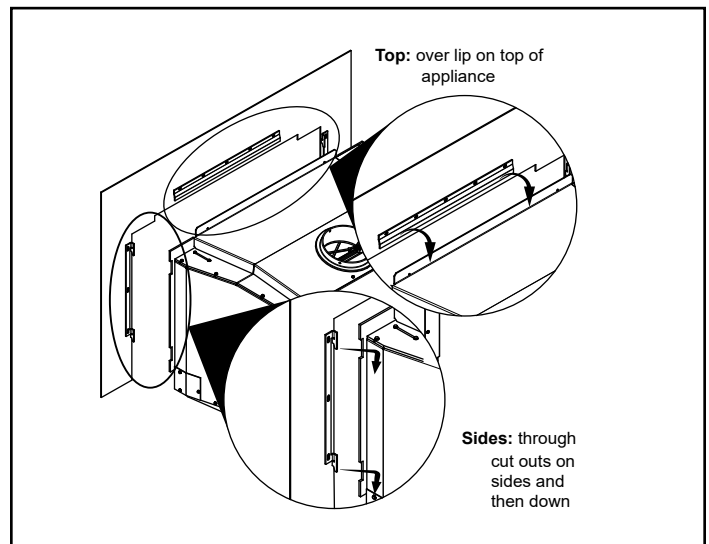

Figure 5.9
4. Lift surround on to front of appliance (Figure 5.9).
2. Lift surround assembly to front of appliance (**Figure 5.9 on page 19**).